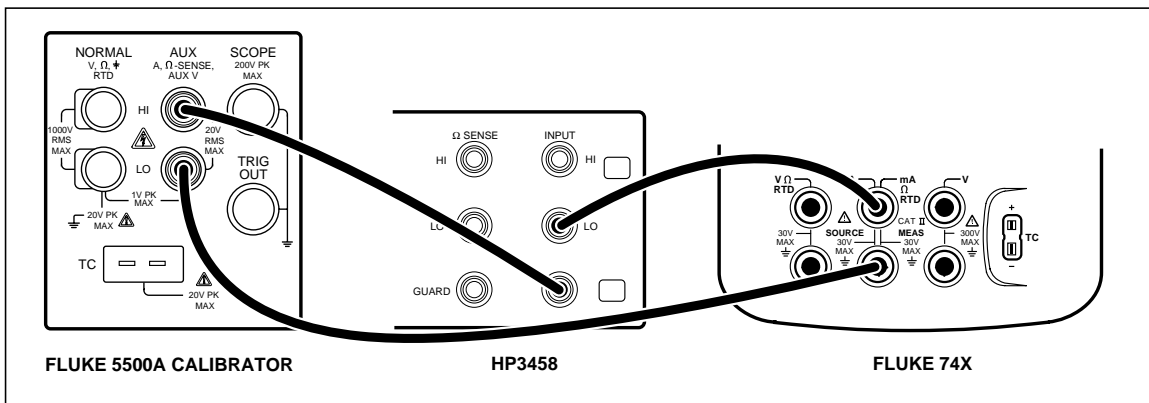

Figure 3. DC Current Measurement Verification Connections
1. Connect the UUT to the 5500A and the HP3458A as shown in Figure 3. Disconnect the jumpers on the three commons (lows) of the UUT if they are present.